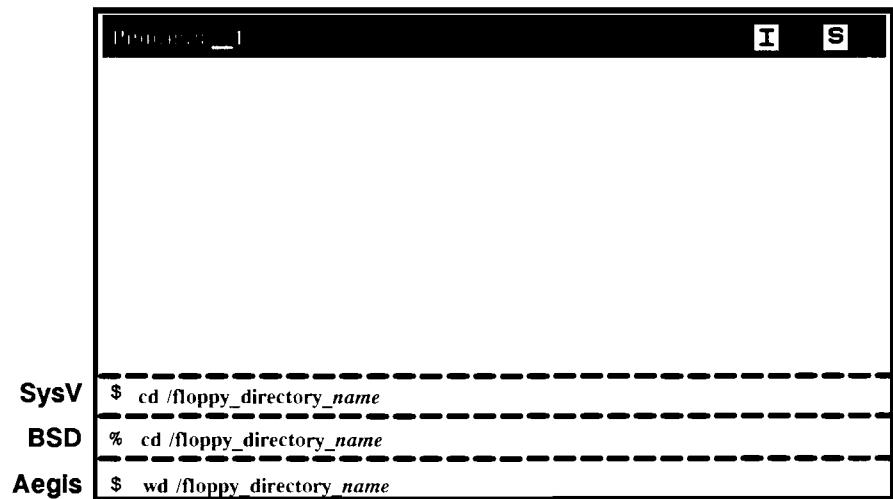

Figure 4–10. Setting Your Working Directory
- 10.** Set your working directory to the floppy directory as shown in Figure 4–10.